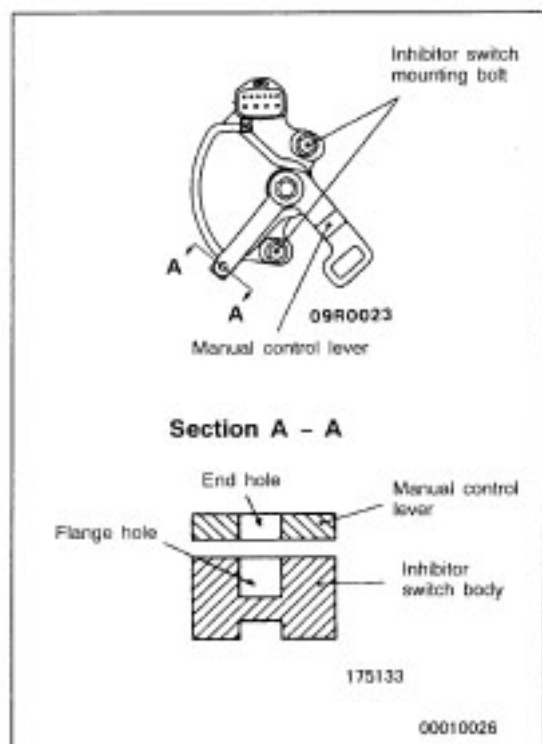

Fig.11-138
1) inhibitor switch and shift cable adjustment as Fig.11-138.